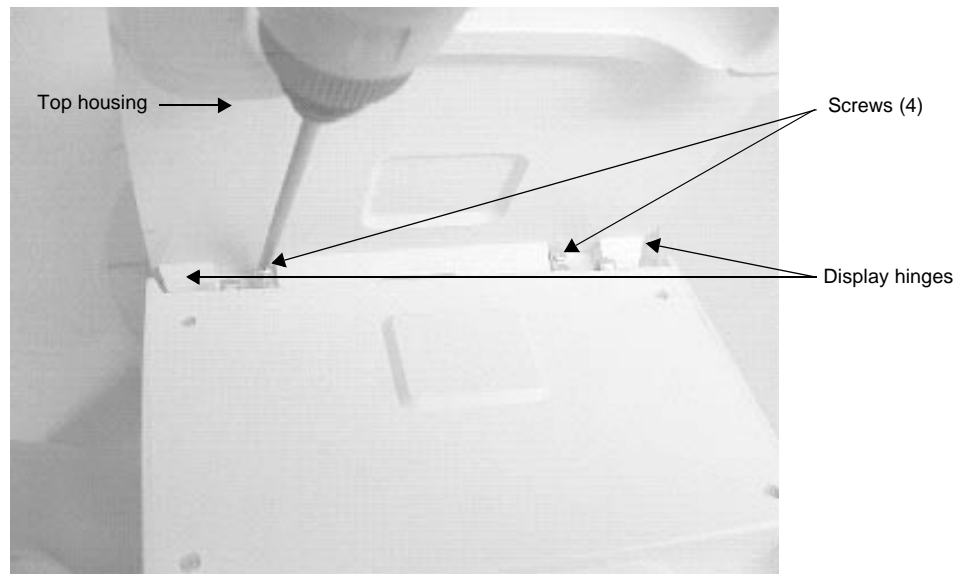

Figure 7.3 Removing the Display Subassembly
- 8 Remove the four screws that secure the Display Subassembly hinges to the top housing with a #1 Phillips screwdriver (Figure 7.3).
- 2 Secure the four screws on the replacement Display Subassembly hinges to the top housing with a #1 Phillips screwdriver (Figure 7.3). Torque screws to 6.1 in./lb. (0.7 newton meter).